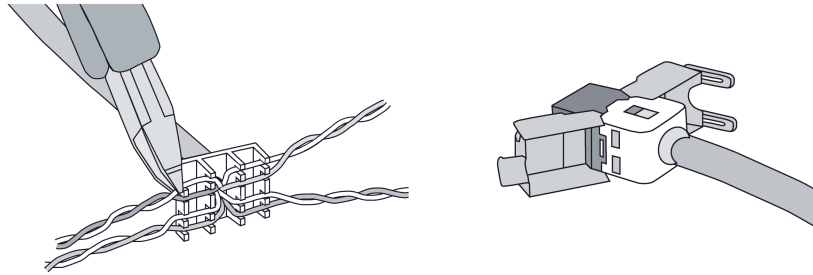

Figure 6: Fitting and connection of the Ethernet adapter plug
- Connect Ethernet installation cable to the Ethernet adapter plug. To do this, strip the Ethernet wires, do not skin, and insert into the cover of the adapter plug. Shorten any wires that are jutting out and push the cover onto the adapter plug in the correct position (Figure 6).
- Connect the supplied Ethernet adapter cable to the terminal (16) and Ethernet adapter plug.